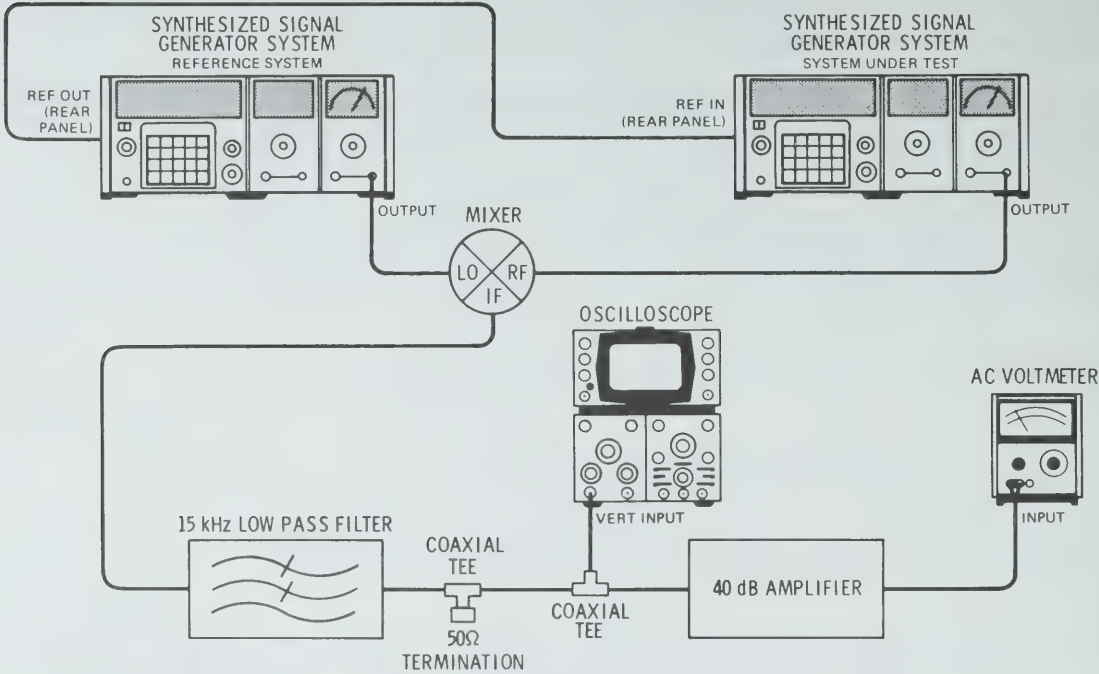

Figure 4-8. Signal-to-Phase Noise Ratio Test Setup
3. Connect the equipment as shown in Figure 4-8.